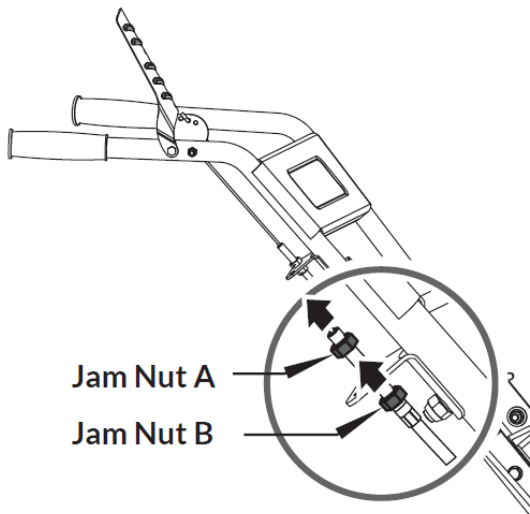

Figure 25
2. Rotate jam nut "A" enough so the jam nut "B" can be rotated up. Rotate jam nut "B" up against the Bracket until desired cable tightness is reached (**Figure 25**).